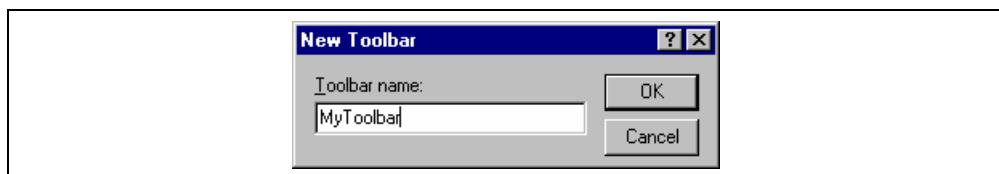

Figure 6.2: New Toolbar Dialog
- Click the “New...” button. The dialog shown in figure 6.2 will be displayed.